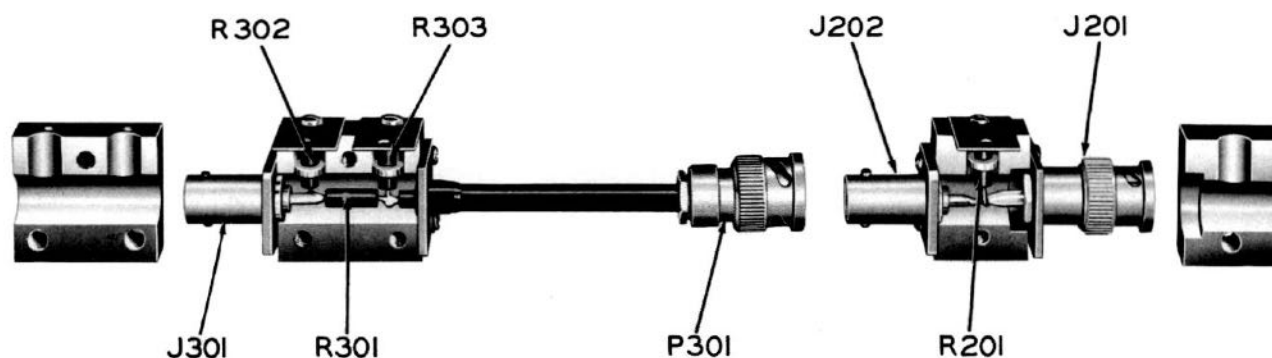

Figure 7-18. Fixed Attenuator CN-179/URM-26A and Test Adapter MX-1289/URM-26A
(1) Remove three 6-32 screws which attach both halves of the housing and the six small screws which secure the end plates and grounding plates to the upper half of the assembly. The upper half may now be removed (see figure 7-18).
(2) Unsolder and remove all resistors being careful not to damage the small spacer washer on each resistor.
(3) Place one spacer washer on each of the new resistors then install the resistors in their proper positions and resolder. Do not use excessive heat when making these connections.
(4) Allow a few minutes for resistors to attain room temperature then remove two remaining screws in the grounding strips and insulate strips from lower half of block by means of a thin sheet of paper. Check individual resistors for compliance with the following values:
a. Remove the screw which attaches both halves of the block and the small screws which secure the connectors and grounding spring to the upper plate. The upper half of the block may now be removed (see figure 7-18).